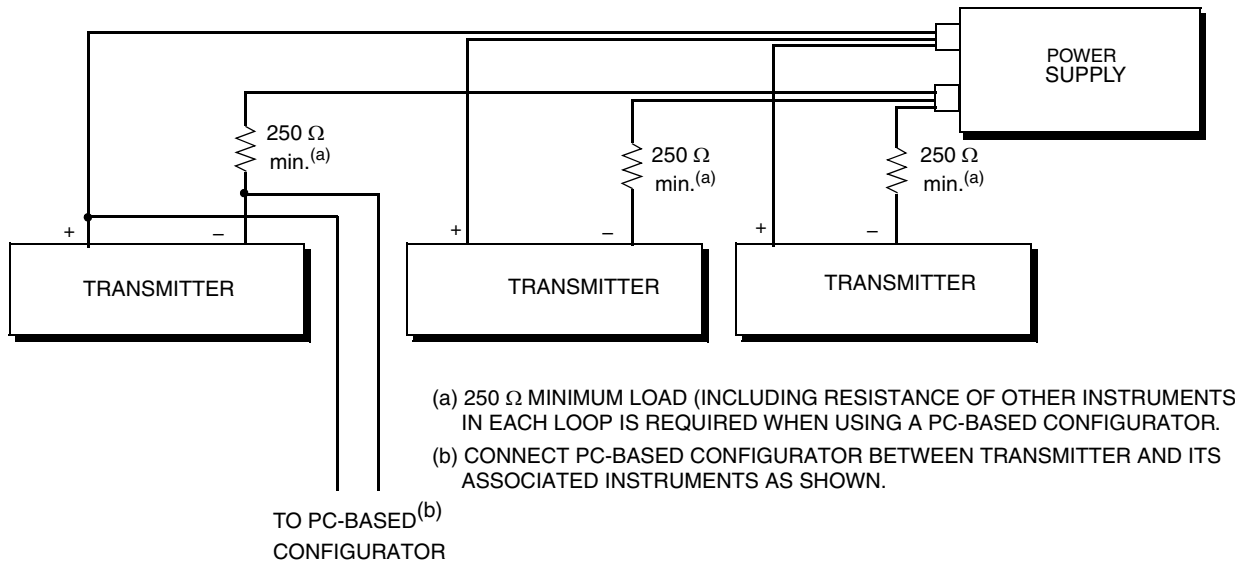

Figure 19. Wiring Several 4 to 20 mA Transmitters to a Common Power Supply
9. If wiring additional transmitters to the same power supply, repeat Steps 1 through 8 for each additional transmitter. The setup with multiple transmitters connected to a single power supply is shown in Figure 19.